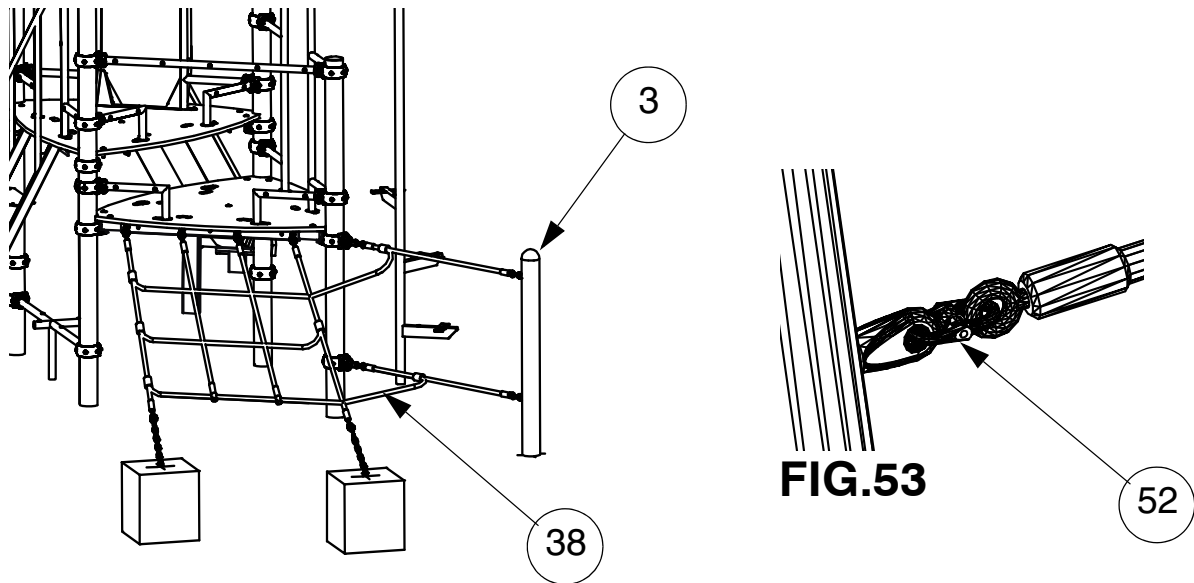

FIG.52
- 58) Connect the Climbing Net (item 38) to the Rope Net Mounting Bracket (item 16), the Climb Rope Tether (item 37) and the Rope Support Leg (item 3) using 8 off Coupling Links (item 52). See FIG.52 & 53.
- 59) Connect the Climbing Net (item 38) to the Ground Fixing Chains (item 40) previously cemented into the ground using 2 off Coupling Links (item 52). Tension the Climbing Net by removing all excess links before connecting. See FIG.52.